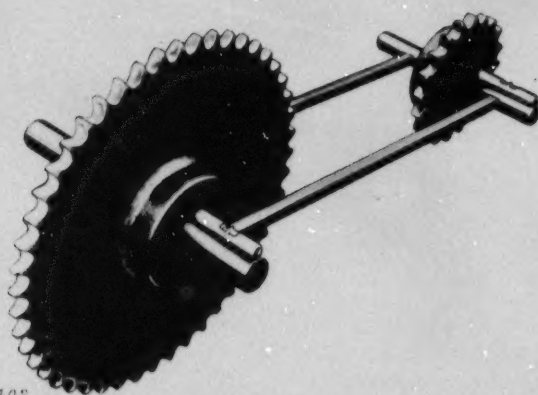

Fig. 21—Aligning Shafts On A Chain Drive Using A Machinist's Level
1. Align The Shafts—Level each shaft with machinist's level on shaft, or across teeth if multiple width sprockets are used. Check shafts to see if they are parallel using a feeler bar (Fig. 21). The distance between shafts on both sides should be equal. Then bolt the bearings securely.